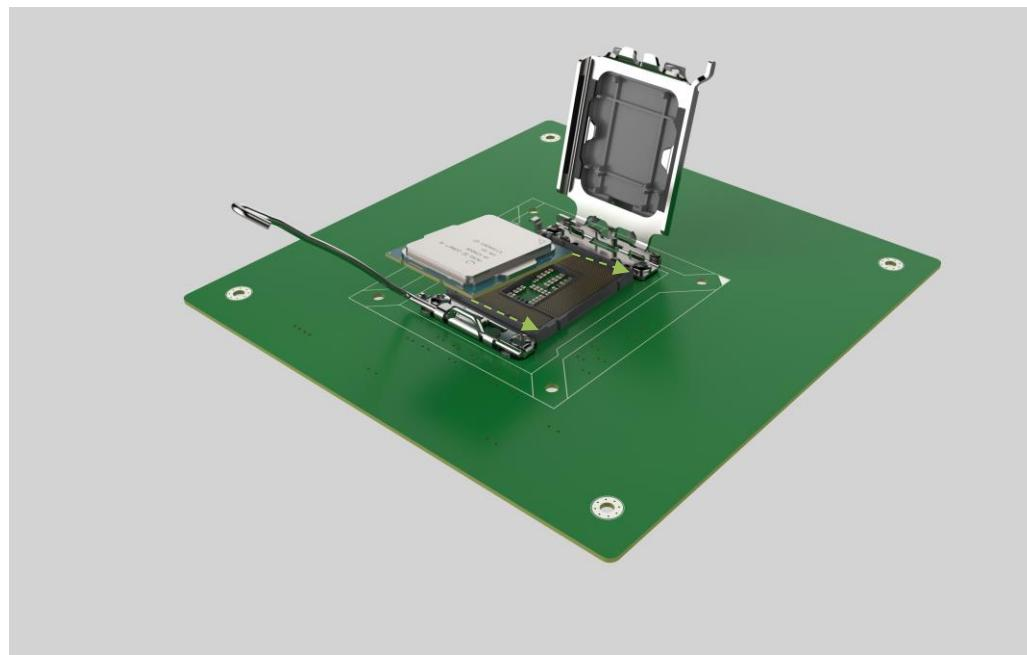

Figure 4-5: Insert the Socket LGA1700 CPU
Step 7: Insert the CPU. Gently insert the CPU into the socket. If the CPU pins are properly aligned, the CPU should slide into the CPU socket smoothly. See **Figure 4-5.**